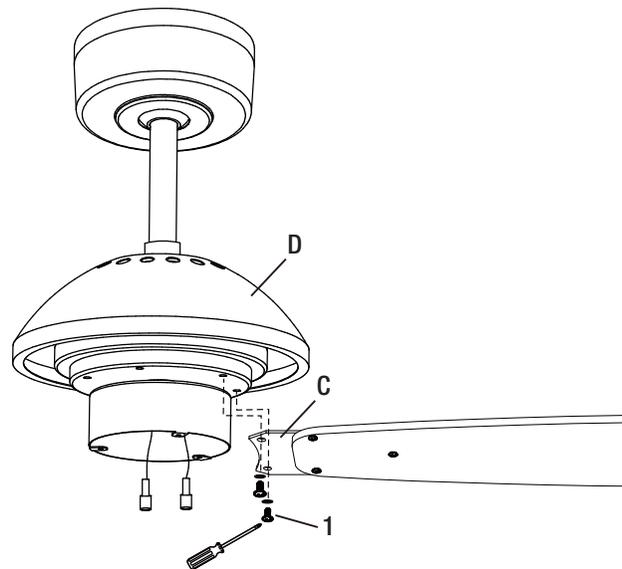

Figure 13
- Remove two blade holder screws on the bottom of motor, position the blade holder (C) below the motor such that the holes aligned (Figure 13). Tighten with the two blade holder screws.